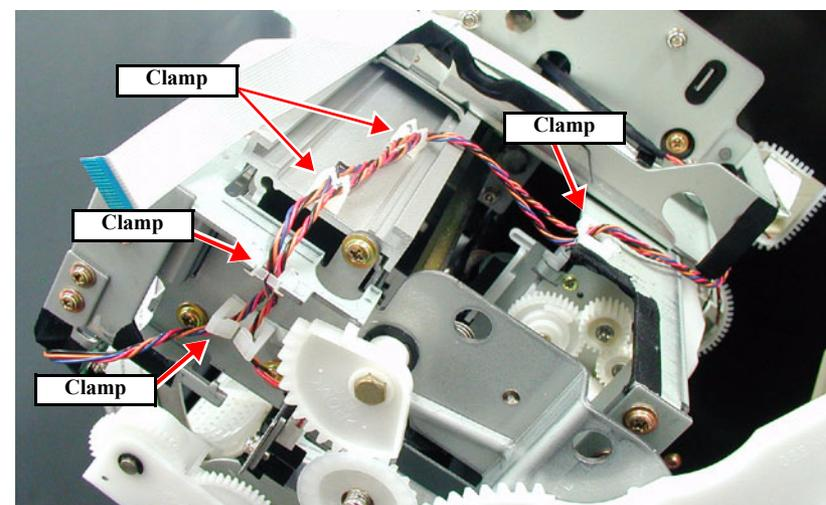

Figure 4-45. Releasing the HEAD\_SLIDE Sensor ASSY Harness
6. Release the harness for the HEAD\_SLIDE Sensor ASSY from the five cable clamps on the Maintenance ASSY and CR Rail ASSY. (See *Figure 4-45*)